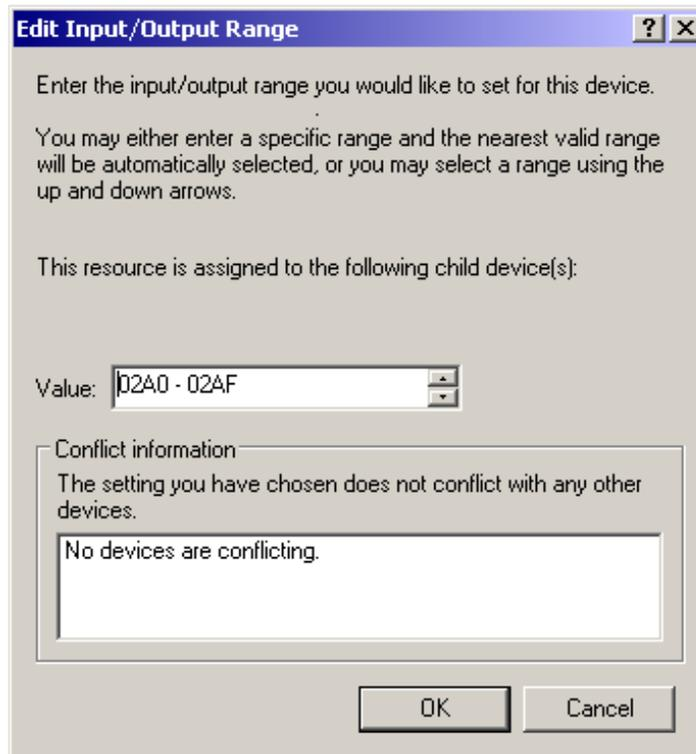

FIGURE 204. Edit Input/Output Range window
38. The window in Figure 204 appears with the current values in the Value field.